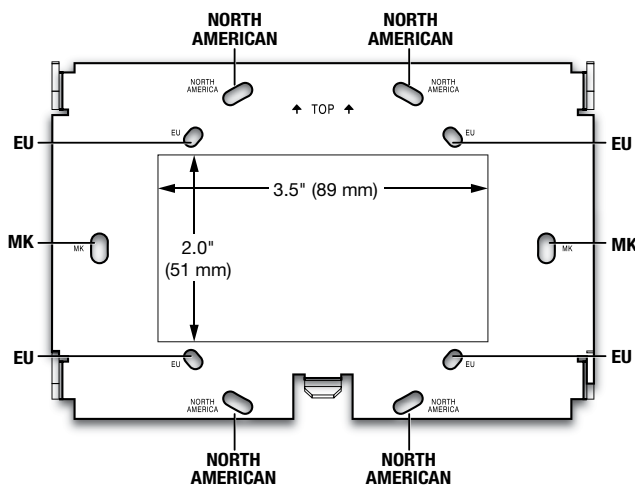

Figure 2. Touchpanel Mounting Plate
2. Fasten the mounting plate to the wallbox (②) with the provided screws. Use mounting holes that are appropriate to the junction box you are using (see figure 2).
3. Use the MK slots and drill the two pilot holes (figure 2). Extron recommends using two Molly bolts or SnapToggle bolts.